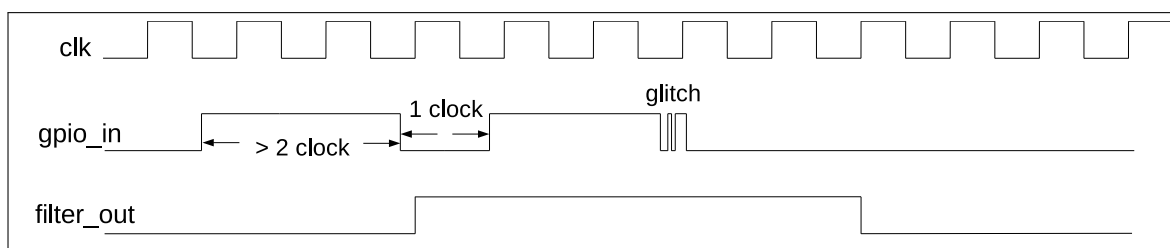

Figure 19-3. Filter Timing Diagram of GPIO Input Signals
2. Enable the filter for pad input signals by setting the register `IO_MUX_FILTER_EN`. Only the signals with a valid width of more than two clock cycles can be sampled, see Figure 19-3.